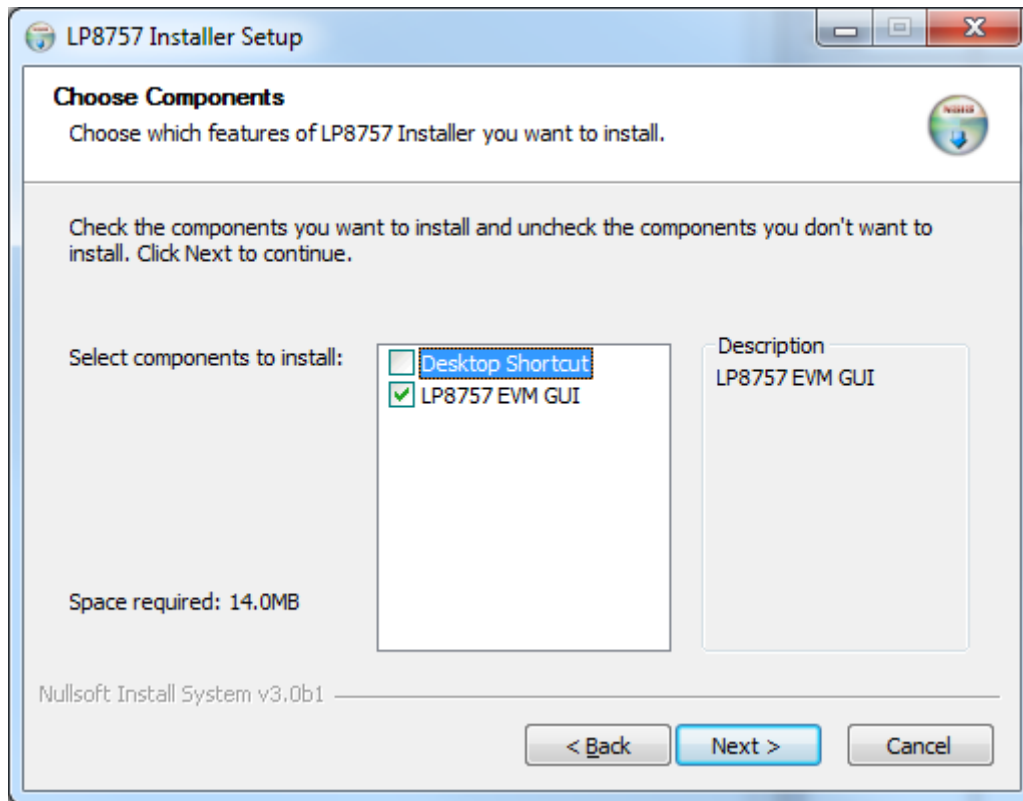

Figure 3. Features of LP8757 Installation
3. Installer prompts to choose which features of LP8757 Installer you want to install (see Figure 3).